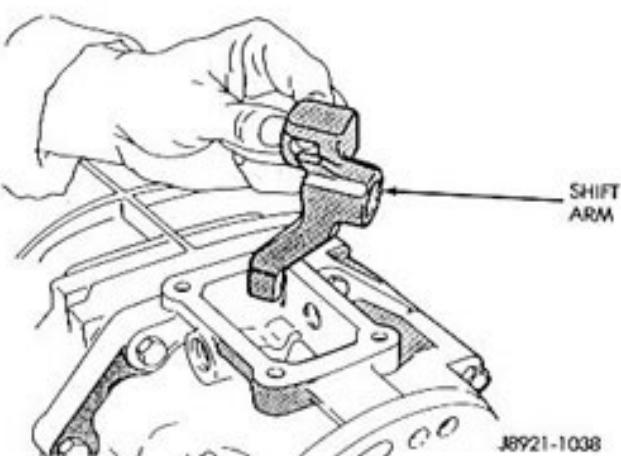

Fig. 8 Shift Arm Removal/Installation
- (9) Remove the shift arm (Fig. 8).